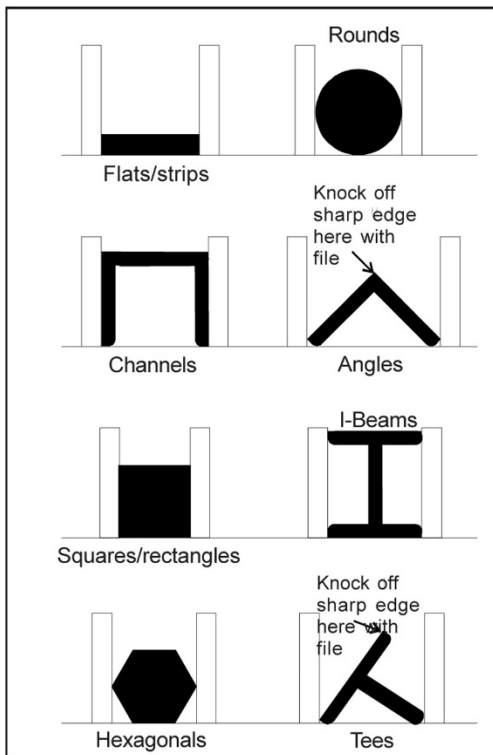

Figure 13: workpiece positioning in vise
2. Clamp workpiece in vise. (See Figure 13 for examples of workpieces in the vise.)